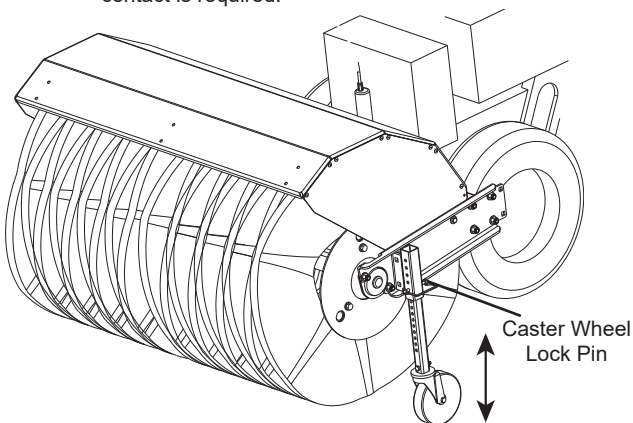

Figure 6 Pattern Adjustment
- a. Remove the caster wheel lock pin. (See Figure 6 Pattern Adjustment)